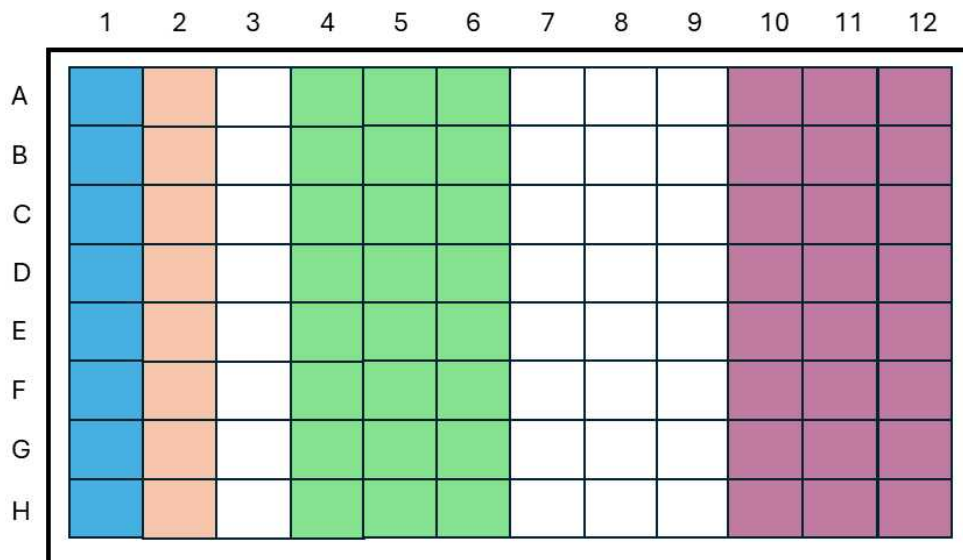

Figure 10. Reservoir plate setup. Colors in this figure correspond to the colors on Table 6.
- Refer to Figure 10 below for a summary of the locations of various reagent solutions.
Table 6. Reservoir reagent composition. This table is color coded to match Figure 10.